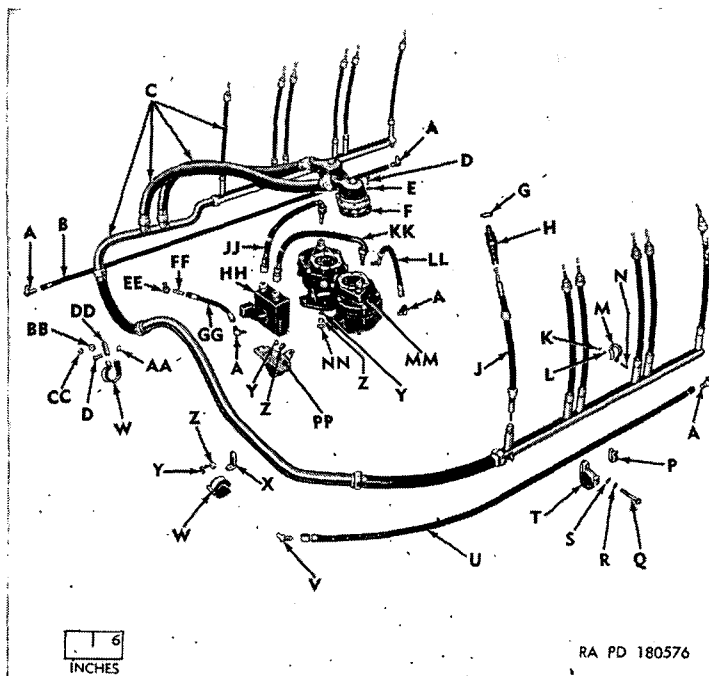

Figure 110. Ignition system—exploded view.
b. Install Ignition Harness (fig. 110). Install the ignition harness assembly. Secure to cylinder heads Nos. 1, 2, 5, and 6. Fasten the ignition harness clamps (W) to the carburetor elbow in four places. Secure with plain nuts (Z) and jam nuts (Y). Place the ignition harness adapters on the magnetos, using new ignition harness-to-magneto gaskets (F). Secure with lock washers (E) and drilled fillister-head screws (D). Install spark plug cable with terminals to the spark plugs, using crowfoot wrench 41-W-871-65 (fig. 13).
c. Install Booster Coil and Cable Assemblies (fig. 110). Install booster coil with filter assembly (HH) on its booster coil and filter bracket assembly (PP). Secure with lock washers (L) and round-head screws (N). Install short left magneto ground cable